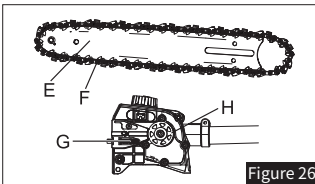

Figure 26
- Lay the saw chain (Figure 26, Item F) into the groove that runs around the guide bar (Figure 26, Item E).